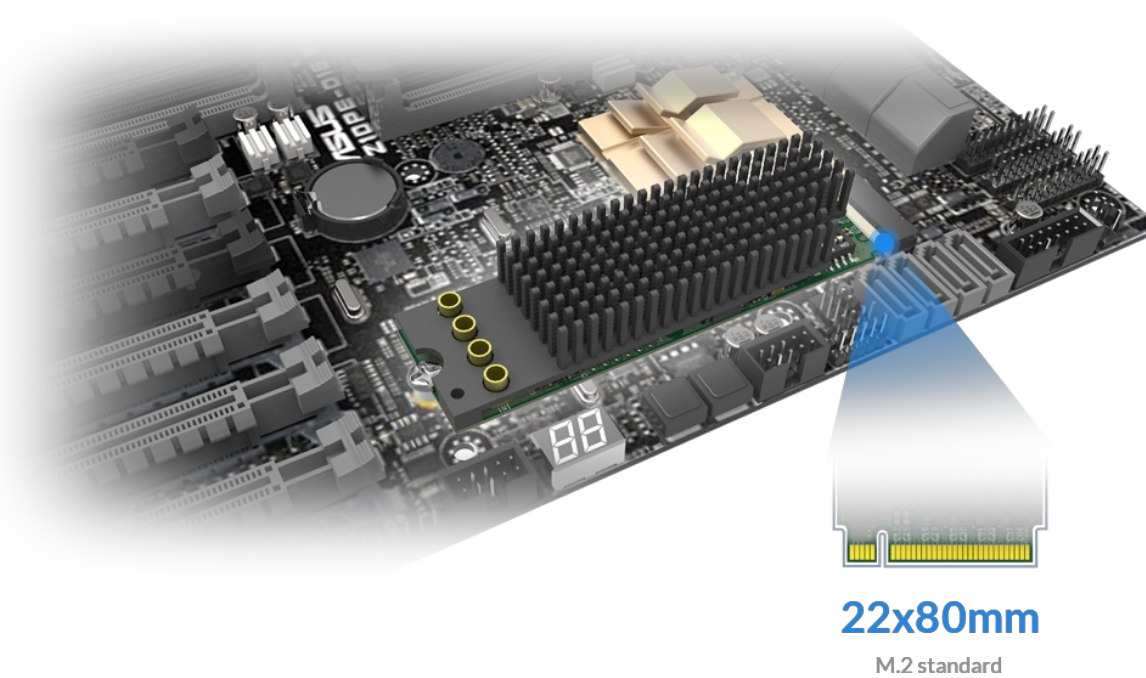

Figure1. Motherboard inside the chassis with capture cards installed
2. Remove the chassis cover and locate the M.2 2280 Type M slot(s), as shown in Figure1.